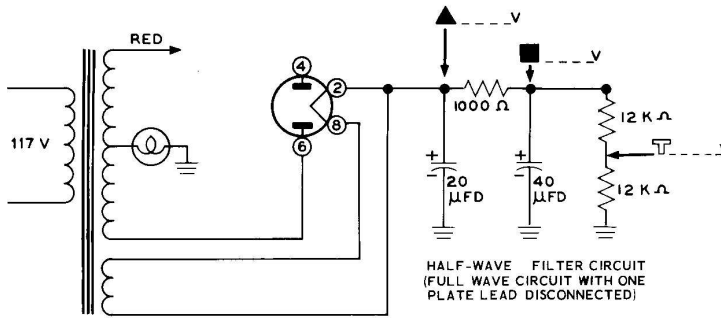
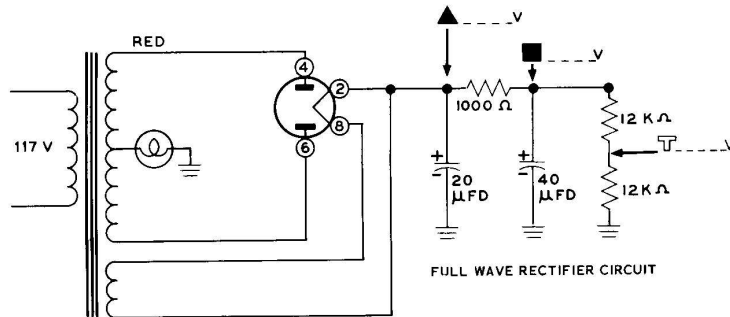

Figure 2L
Figure 2M
- (✓) Figure 2L shows your power supply circuit as it is now connected, as a half-wave rectifier. Very carefully measure each of the three voltages at the points indicated, and write each voltage down in its proper blank.
- (✓) [1] Temporarily, reconnect the red transformer lead to pin 4 of the 5Y3 socket (S).
- () Figure 2M shows your power supply circuit as it is now connected, as a full-wave rectifier. Once again, very carefully measure each of the three voltages at the indicated points, and write each voltage down in its proper blank.
- (✓) [1] Now connect the free lead of this .005 μ fd capacitor to lug 2 of the 5Y3 socket (S).
- (✓) Disconnect the red wire from pin 4 of the 5Y3 socket, and place tape over it as you did before. This has returned the circuit to the half-wave circuit of Figure 2L.
- (6) Turn the unit OFF and unplug the line cord.
- (U) P Remove the tape and reconnect the red transformer lead to pin 4 of the 5Y3 socket (S). Plug in the receiver and turn on the power.
- (X) Unplug the earphone.
Experiment 1 showed you that a higher output voltage is obtained from a full-wave power supply circuit than is obtained from a half-wave power supply circuit. Compare the voltage that you wrote down in Figure 2L and Figure 2M. Notice that each of these voltages has become larger in Figure 2M the full-wave power supply. Remember the reason for the increase in voltage that was given when you were studying the full-wave power supply of Figure 2G. Filter capacitors were not able to discharge as quickly because twice as many pulses were present at the output of the full-wave rectifier. Thus the circuit became much more efficient. This also caused the ripple to be lower in amplitude than the ripple in the half-wave circuit.